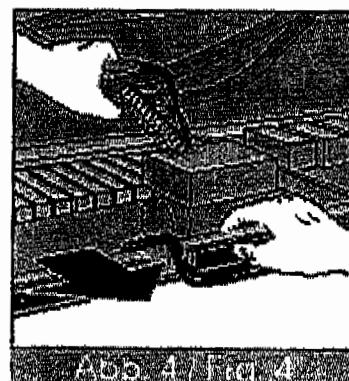

Abb. 4 / Fig. 4
- Remove the ballast plates. Doing this, hold up the cables or clip them into their respective clips. (see Fig. 4)